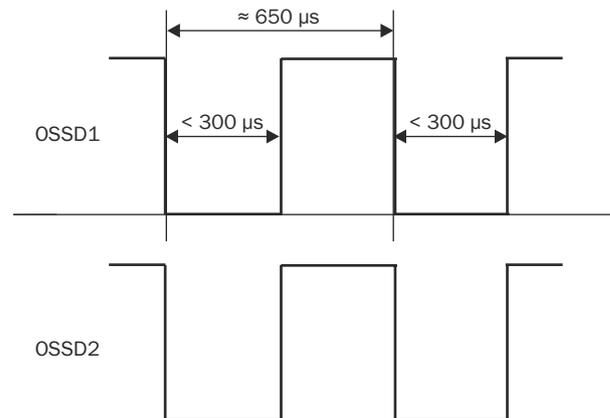
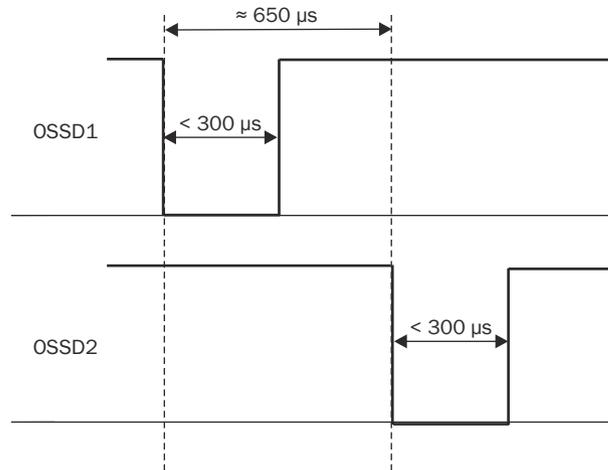
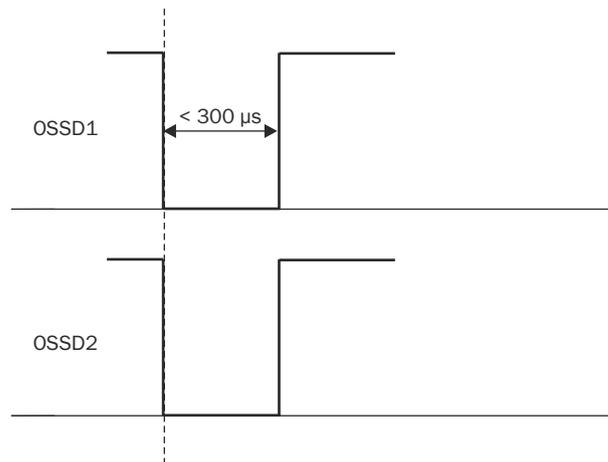

Figure 82: Voltage test after switching on the OSSDs
Figure 83: Shut-down test
Figure 84: Voltage test
After a further half basic response time of the device there is a shut-down test ②, 120 ms later a further voltage test ③. Then the device performs a shut-down test and a voltage test alternately at an interval of 120 ms. Pulse duration for the individual tests, see figure 82, page 133, see figure 83, page 134, see figure 84, page 134.